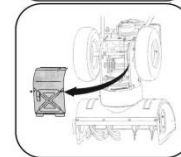

Figure 12
2. Carefully pivot the snow thrower up and forward so that it rests on the auger housing. Remove the frame cover from the underside of the snow thrower by removing four self-tapping screws which secure it. See Figure 12.